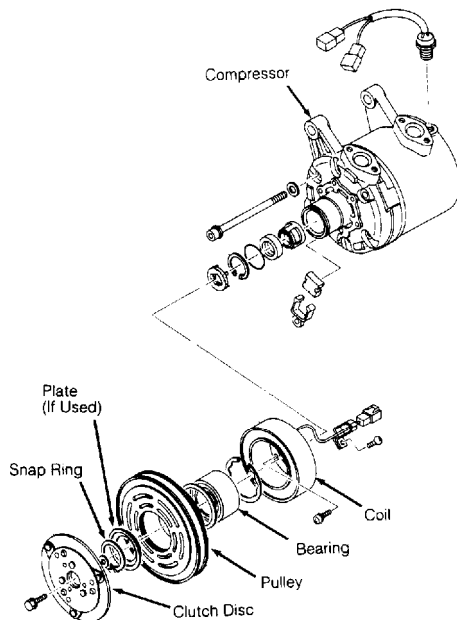

Fig. 3: Diesel Kiki Rotary Vane Compressor
3) Be careful not to scratch shaft or bend pulley. Using an impact driver, loosen 6 coil mounting screws. Remove key and clutch coil. See Fig. 3.